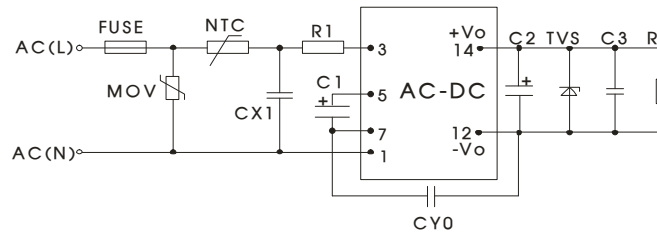

Fig. 1: Typical application circuit
- 2.It is necessary to add circuit to the output,such as the typical application of Figure 1.